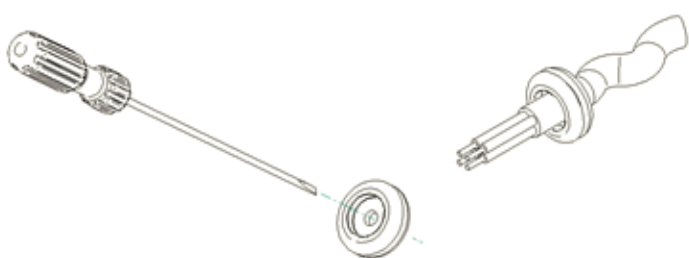

Fig. 4 - Insert cables
6. Push down the cables into the front cover receptacles as shown in the image below. – Fig. 4